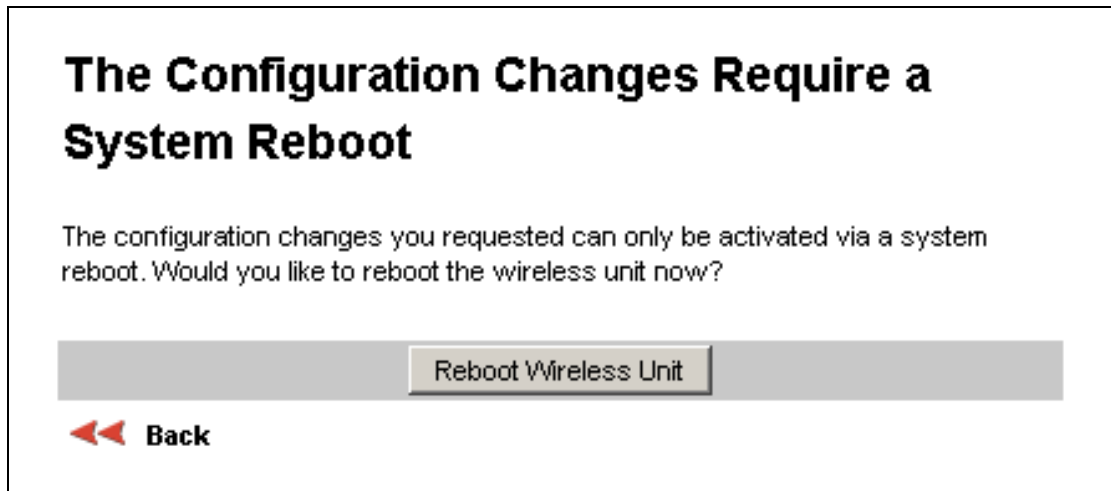

Figure 94 - Configuration Reboot Screen
6. Reboot both ends of the link Figure 94. The software is designed to allow five seconds so that a user can command both ends of the link to reboot before the wireless link drops.